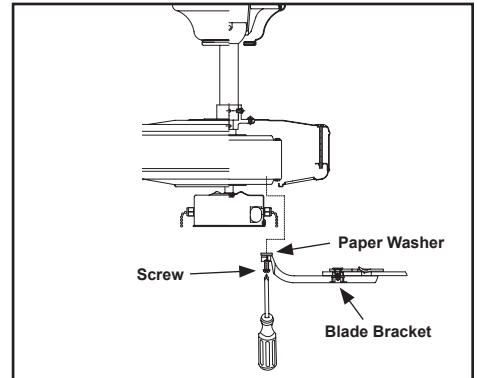

Figure 17
3. Fasten the blade assembly to the motor by inserting the alignment post into the slot on the bottom of the motor and tightening the motor screws. Please note that the motor screws may be pre-attached into the blade brackets (Figure 17).